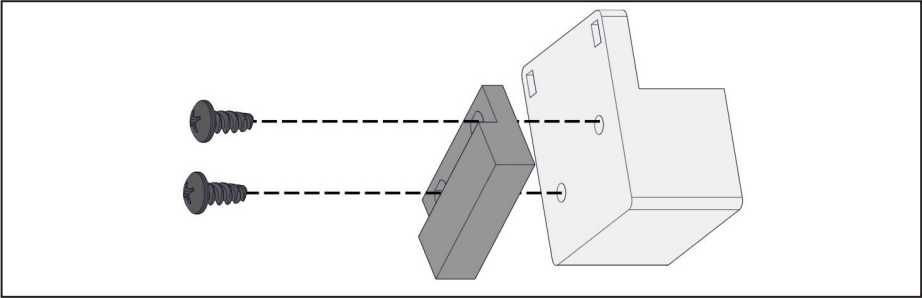

Figure 59 — Mount magnetic switch
- ☐ Using the supplied Philips head screws, mount the magnetic switch to the park sensor adapter (Figure 59).